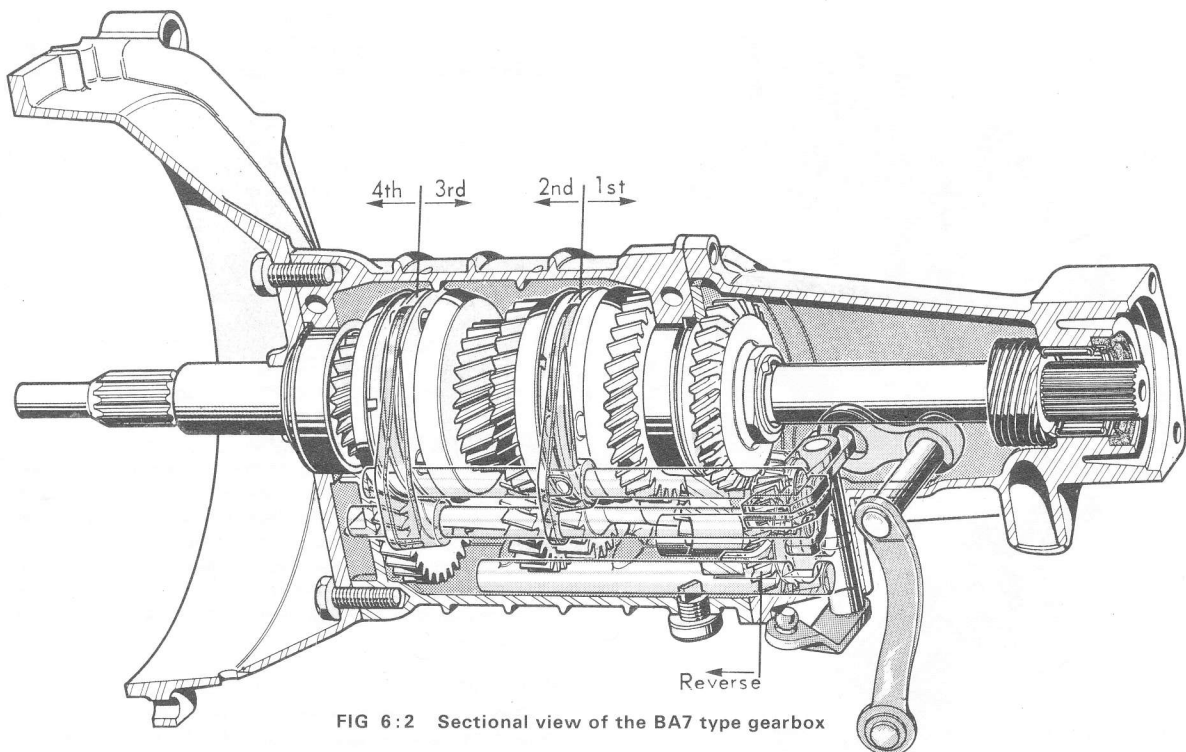

FIG 6:2 Sectional view of the BA7 type gearbox
- 8 Extract the reverse gearshaft lock screw and remove the shaft, reverse idler and gear and washers (see FIG 6:5).
12 Using a mallet, drive the mainshaft carefully out to the rear of the gearbox, collecting the components as they become free in the following order: 4th speed synchronizer and cone, 3rd speed gear and bushing, 2nd and 3rd speed synchronizer and hub and 2nd speed gear. The mainshaft and its components can be seen in FIG 6:6.